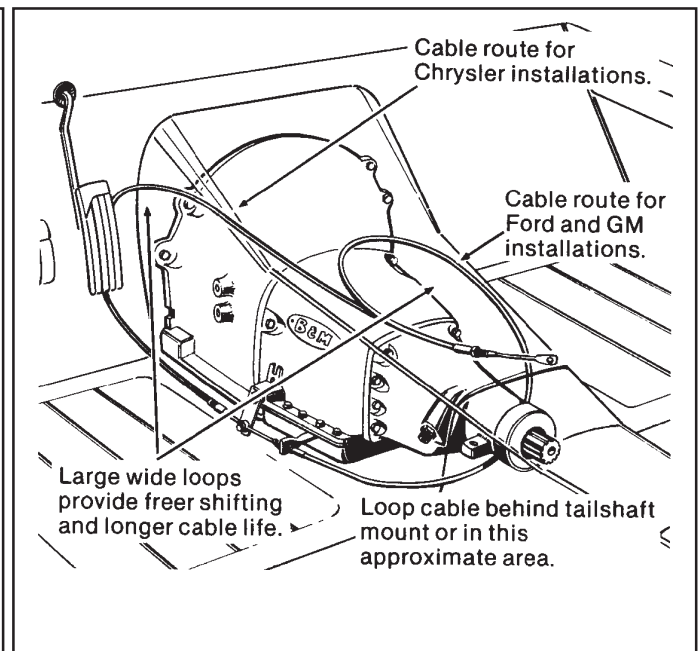

Figure 4
**STEP 8.** Install the shifter mechanism into the vehicle. Slide the shifter cable through the carpet and the hole in the floor. Bolt the shifter down using four 1/4" x 1-1/2" hex bolts and nuts. If required use 1/4" washers as shims between the shifter mechanism and the floor to level the shifter. **ROUTE THE CABLE AS SHOWN IN FIGURE 4, AVOID SHARP BENDS WHICH WILL KINK AND DAMAGE THE CABLE.** Use cable clamps or tie wraps to secure the cable housing to the chassis to avoid contact with hot engine or exhaust system.
**STEP 12.** Route the shifter cable according to **Figure 4**. Avoid kinks and sharp bends and route the cable away
**STEP 18.** Route the shifter cable according to Figure 4. Avoid kinks and sharp bends and route the cable away from hot engine or exhaust parts.
**STEP 23.** Route the shifter cable according to **Figure 4**. Avoid kinks and sharp bends and route the cable away from hot engine or exhaust parts.